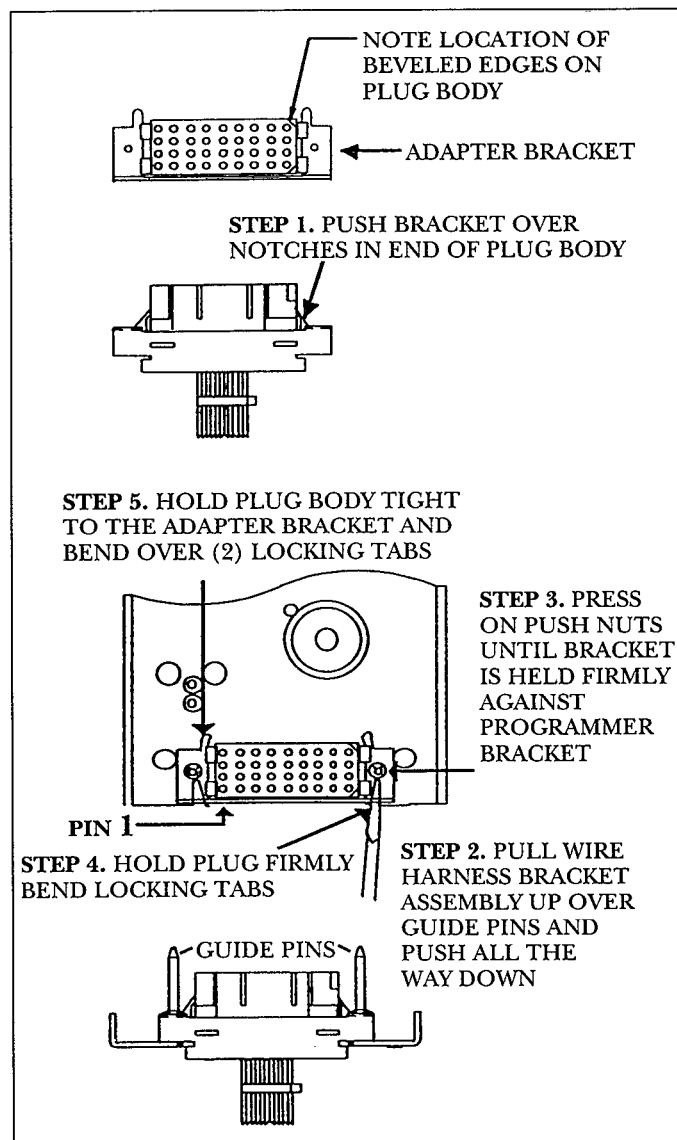

Fig. 17. Harness Connector
Assemble the adapter bracket to the 36-pin programmer connector (with bevels to right side) by pushing the bracket over the notches in the ends of plug body. Follow Steps 2-5 of Fig. 17 to complete assembly of programmer harness to programmer bracket.
**CAUTION:** Adapter bracket must be installed onto harness plug as shown in Fig. 17. Failure to do so will result in harness plug failure and the programmer will not provide protection.